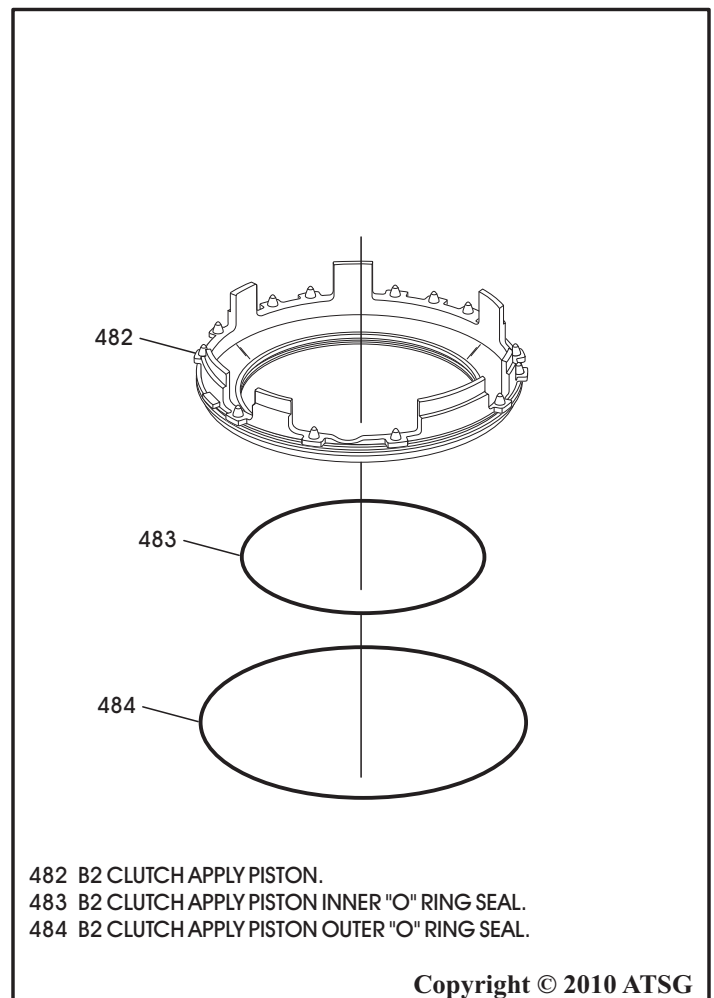

Figure 88
73. Remove and discard the inner and outer "O" ring seals, as shown in Figure 88.